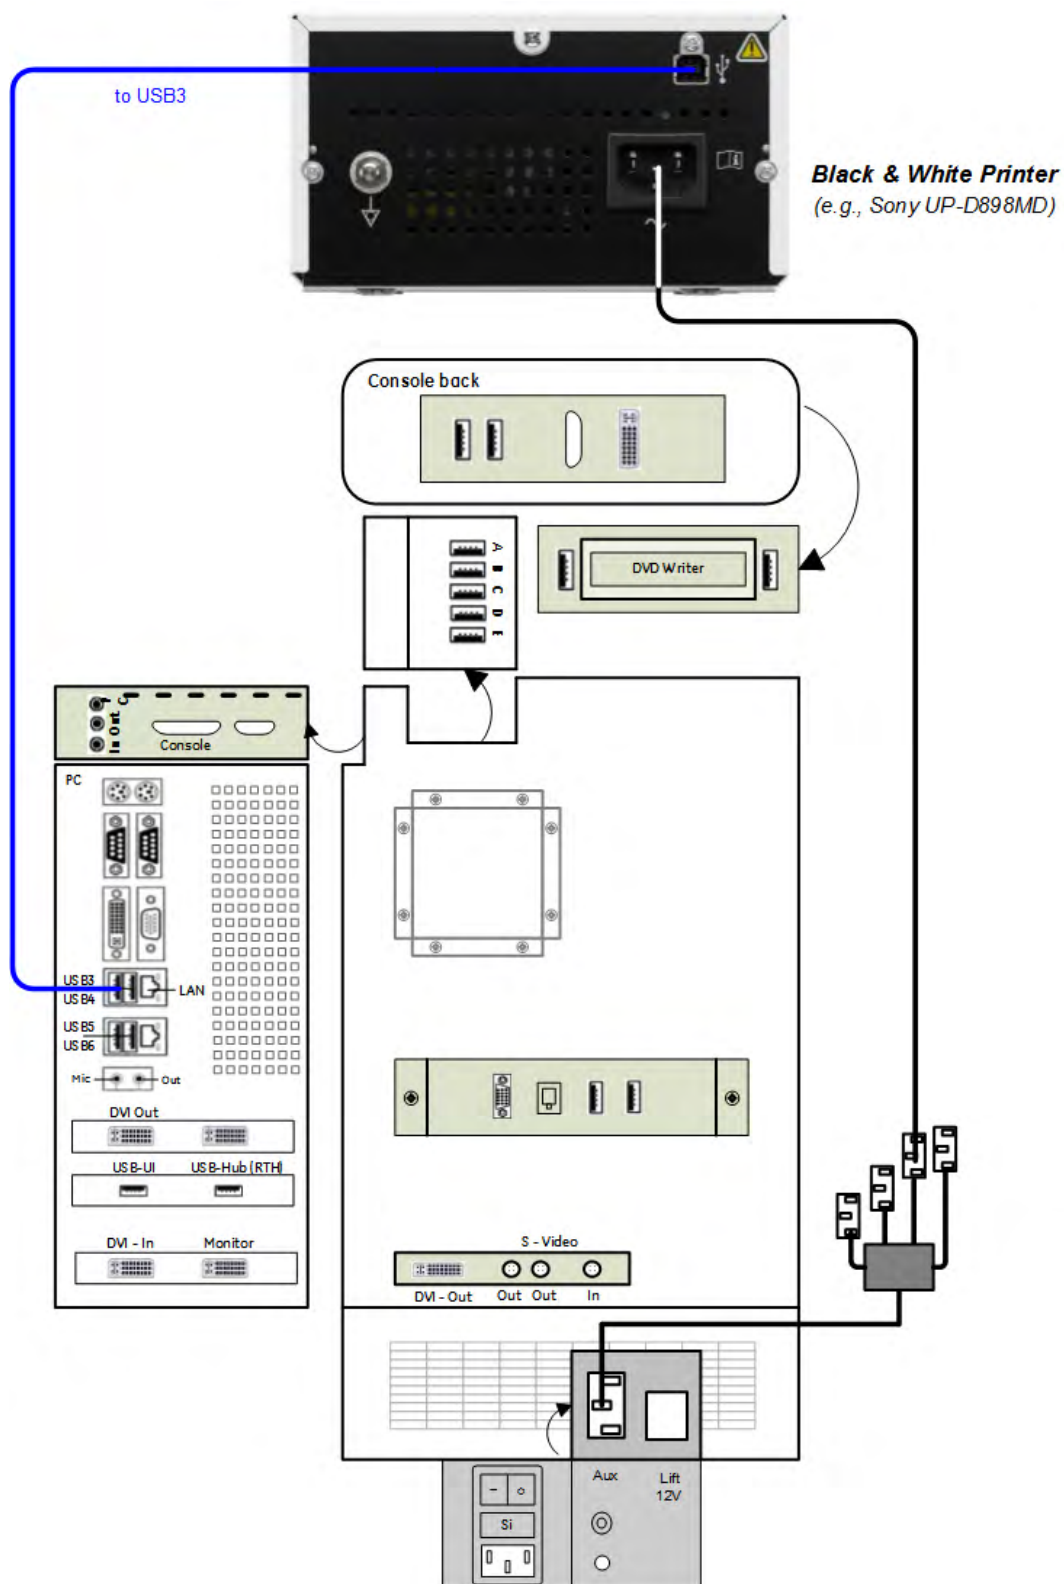

Figure 3-4 Connection Scheme - B&W Printer
- b. Press the Power ON button (1) on the printer.
- c. Enter the Menu by pushing the Joystick key (2).
3. Connect the Black & White printer according to connection scheme, see: Figure 3-4 on page 3-12.